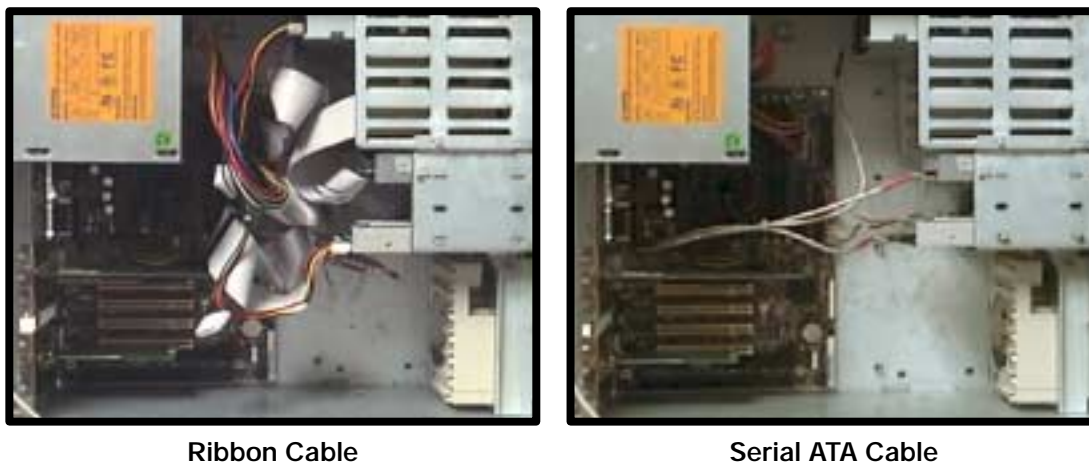

Figure 1
- *Better cabling.* As shown in Figure 1, Serial ATA replaces cumbersome ribbon cable with thin and flexible cable that can be up to one meter in length. Simpler cabling can reduce manufacturing cost, improve the reliability of cable connections, improve system cooling, and provide system designers more room inside the chassis.